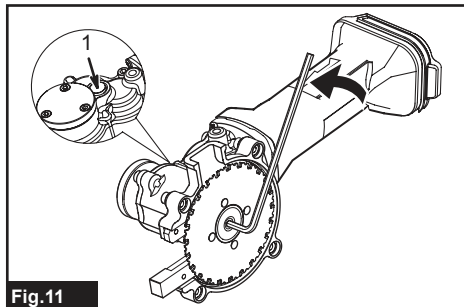

Fig.11
- Fig.11: 1. Push (Lock Button)